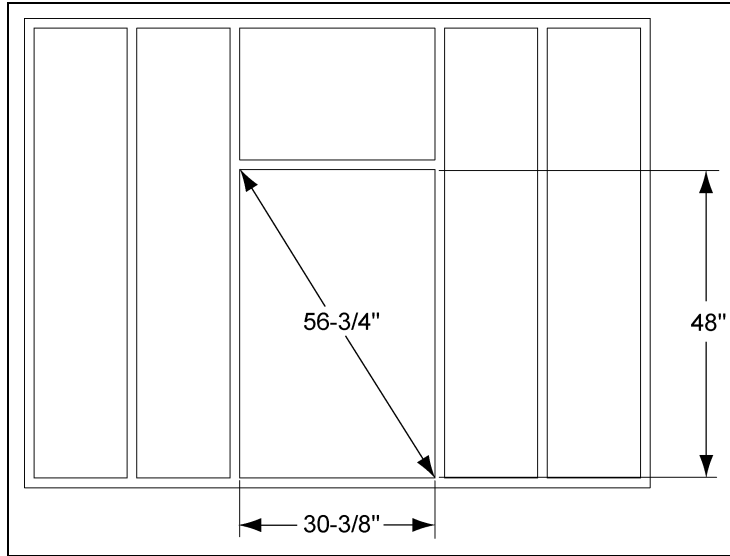

Figure 1
1. Frame the opening a minimum of 48" from the ground and 30-3/8" square. (See Figure 1.)